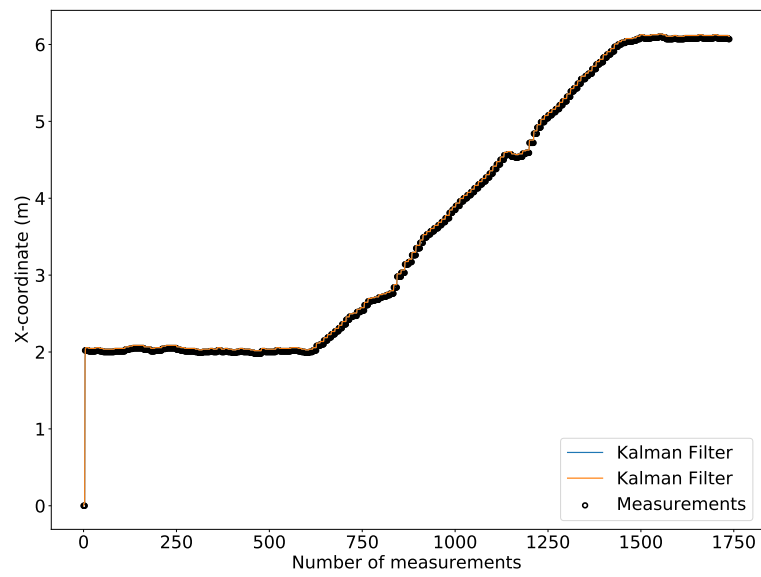

Figure 1: Single movement plot with remote control alone
3. Move the robot forward for about 4m with remote control alone (See 1) and the result is shown in Figure 1, 2, 3, 4 and 5